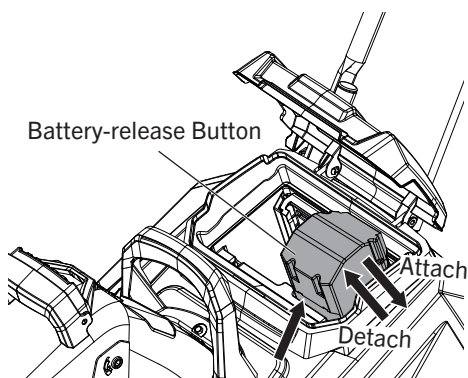

FIG. 3
1. The battery-pack cover is hinged. Raise the battery-compartment cover by lifting the front of the cover (Fig. 3).